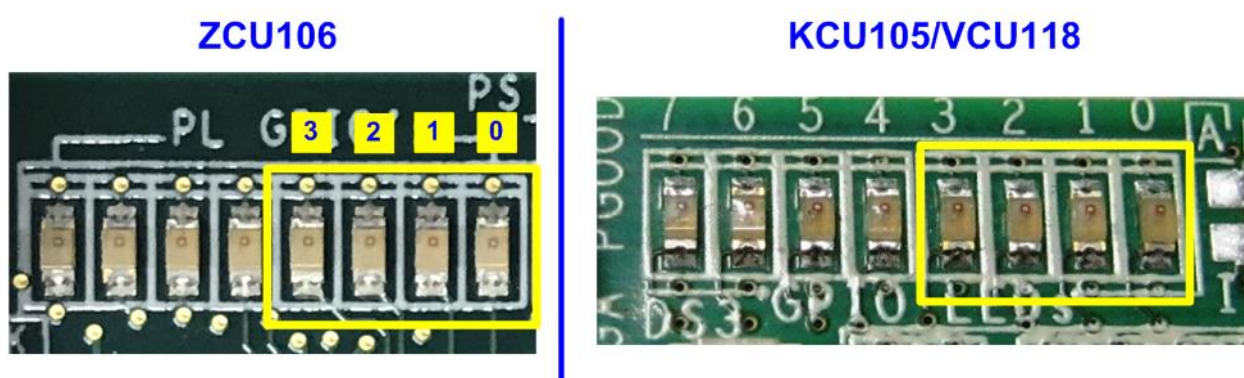

Figure 2-11 Four LEDs to show the current status
11) After finishing FPGA programming, LED[0] and LED[1] are ON during PCIe initialization process. LED[1] changes to OFF after PCIe initialization process is finished as shown in Figure 2-11.